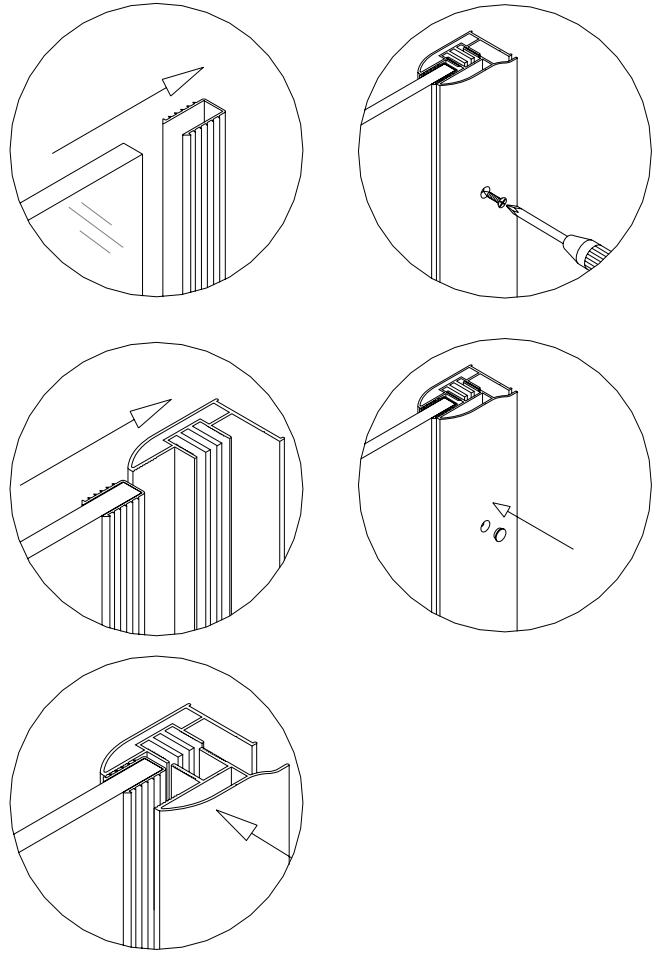

Fig 2
2. Have out one of the **Stationary Glass panels (2)**. Locate small holes on the stationary glass. These holes must face towards the door. Place a **U-Shape Seal Gasket (11)** on the long (vertical) side of the glass panel; fit the glass with the gasket into the position (fig 2).
3. Attach the second part of **wall profile (1)** to the **L-shape profile** using **4X16 flat head self-tapping screw (13)** and fasten tight the profile so to secure the position of the stationary glass. Cover the holes with **Decorative cover (14)** (fig 2).